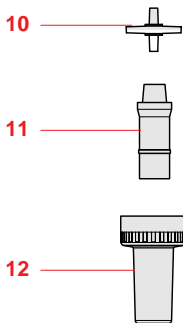

Fig. 6
- Push a new **filter** into the adapter and then reassemble the device (Fig. 6). Check the device for leaks (see Sec. 8).